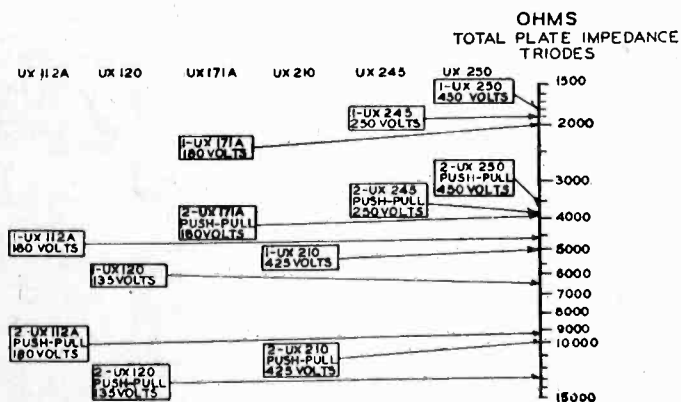
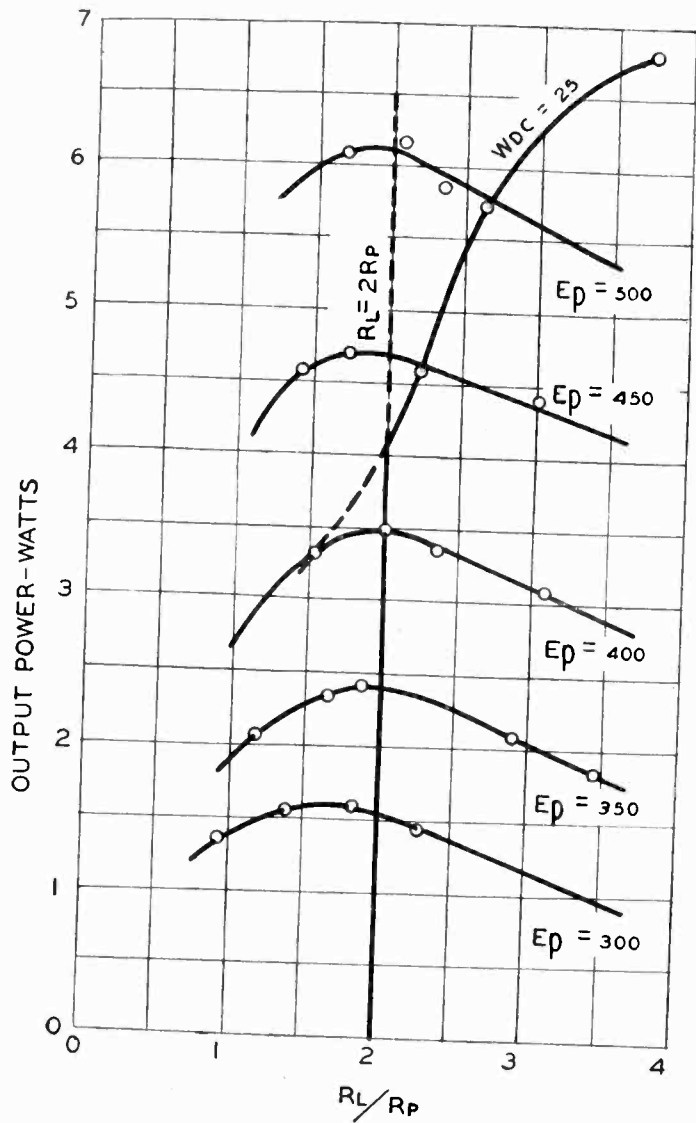
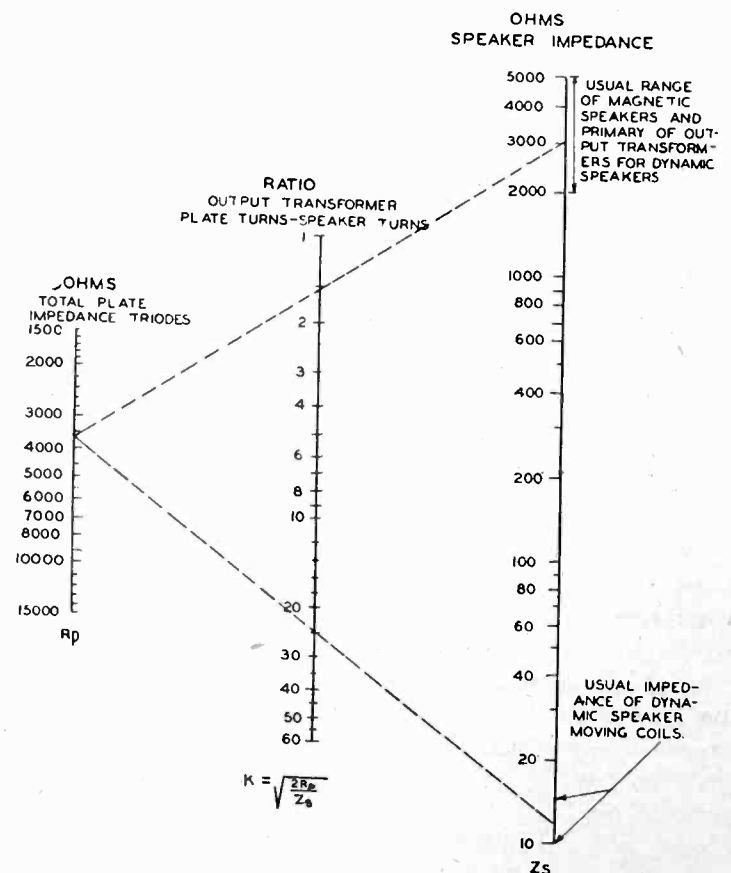

Fig. 2—Output impedance of commonly used tubes at maximum rated plate voltages
Fig. 3—Effect of load impedance on output power of UX-250
Fig. 4—Alignment chart correlating turns ratio of transformer with resistance of tube and loudspeaker
by the use of Fig. 4, as will be explained on another page.
Several writers^{1,2} have found that the maximum undistorted power output of a tube will be obtained when the load impedance into which the tube works is twice the impedance of the tube. This condition is not very critical, however, as is indicated by Fig. 3 which shows the effect of load impedance on the output of ux-250 for various values of plate potential. This figure is taken from the paper by Messrs. Hanna, Sutherlin, and Upp.² At a plate voltage of 450 it is seen that for values of R_L/R_p between $1\frac{1}{4}$ and 3 the greatest loss in power is only 7 per cent. Although the curves of Fig. 3 apply directly to the ux-250, the general conclusions drawn from them apply to all tubes. It should be noted in the case of the ux-250 that the ratio of load to plate impedance should be greater than 2 for high values of plate voltage in order not to exceed the maximum safe plate dissipation of 25 watts. Fig. 2 gives the plate impedances for output tubes now on the market.
Fig. 4 is an alignment chart for equation (1) based on the condition that $R_L = 2R_p$.
As an example, suppose two ux-250 tubes are to be connected in push pull with a plate potential of 450 volts. In Fig. 2 the impedance is found to be 3,600 ohms. Using the nominal value of 3,000 ohms as representing the impedance of the usual magnetic loudspeaker, or the primary of the output transformer of an electrodynamic loudspeaker, the turns ratio in Fig. 4 is found to be 1.5 : 1. Similarly, using 12 ohms as the usual impedance of the moving coil of the loudspeaker, the turns ratio is 25 : 1. These values are indicated by the dotted lines of Fig. 4.